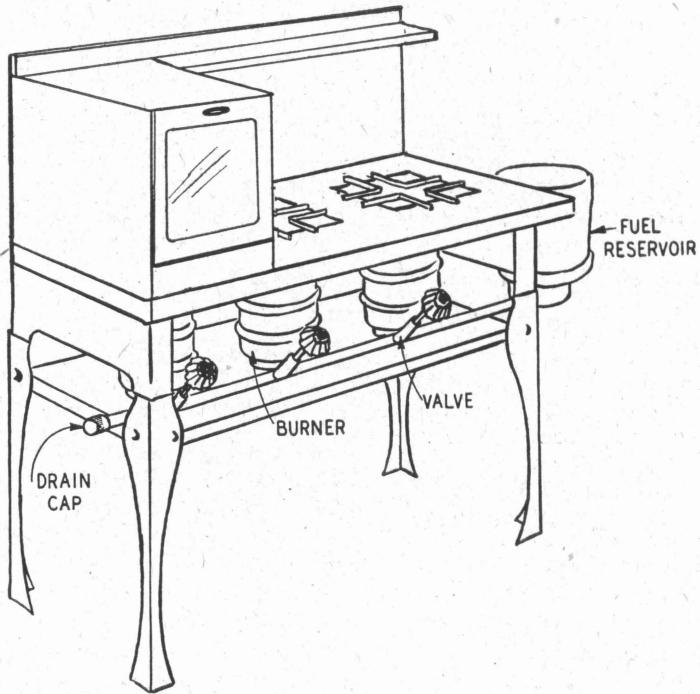

Fig. 53.
**Feed pipe:** Drain the feed pipe, preferably every three months, by loosening the drain cap, Fig. 53, and tilting the stove. Clean the pipe with a rag tied securely to a long wire. Flush with kerosene.